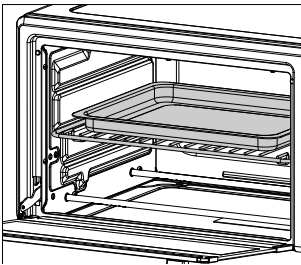

Figure 4: For Baking, use this configuration in lowest rack position
- The oven has two pan positions to accommodate a wide variety of foods. The pan can be placed on top of the Wire rack or inserted into the guide rails below the rack. (See Figures 4 and 5)